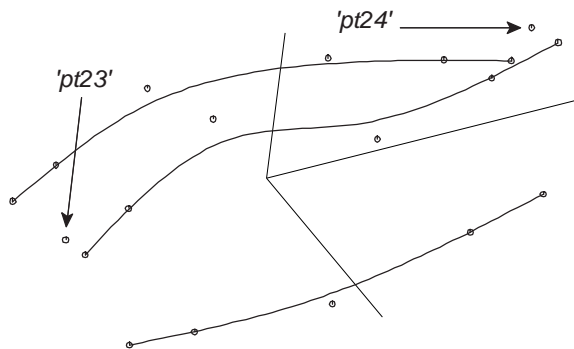

Fig. 15
- 4 **Drag the new point ('pt23')** about 1/4 the distance toward 'pt0' (at the end of the uppermost spline; see Fig. 15 below).
- 6 Drag the new point ('pt24') toward 'pt5', about the same distance and in the same direction that you dragged 'pt23' (Fig. 15).